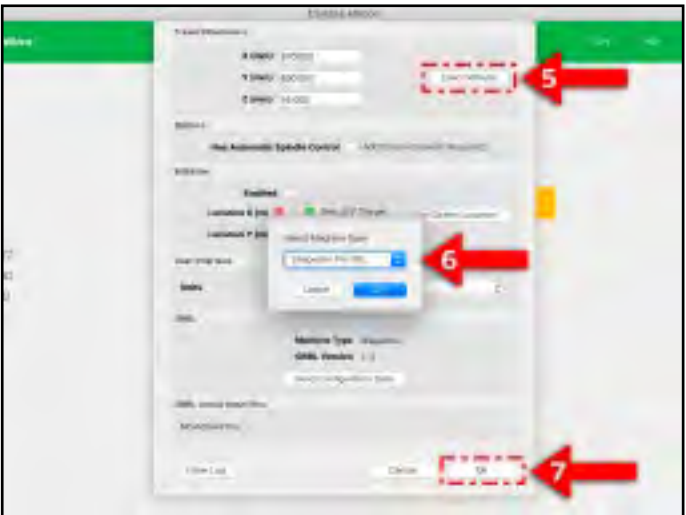

Figure 10-3
- 5. After the configuration settings finish sending, click the **Load Defaults** button in the *Travel/Dimensions* section at the top of the window. See Fig. 10-3.